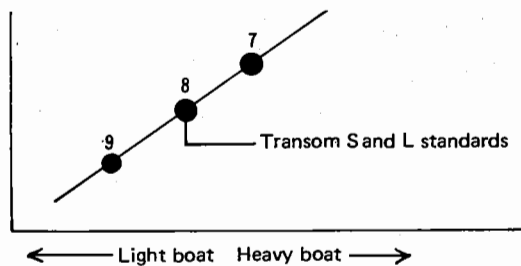

Fig. 17-15
- 3) Propeller selection table (Fig. 17-15)
(5) The method of running (the method of running and adjusting after reassembling in the water tank simulating running condition)